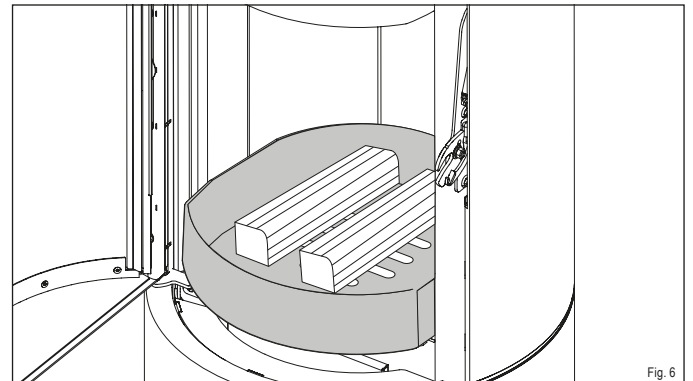

Fig. 6
- ▶ **Add two logs (4) with a total weight of 1.4 kg in the middle of the firebox (face forward).**
- ▶ **Keep approx. 5 cm from the firebox glass (Fig. 6).**